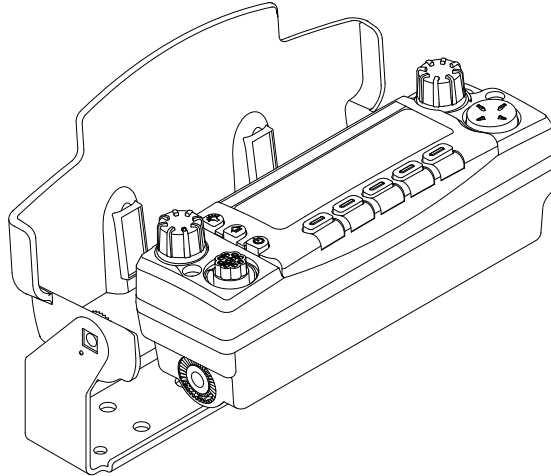

Figure 5-21. Slide the Control Head onto Trunnion
- Slide the control head onto the trunnion while aligning the edge of the control head with the edge of the sunshield as shown in Figure 5-21. Make sure the Velcro properly adheres to the control head.